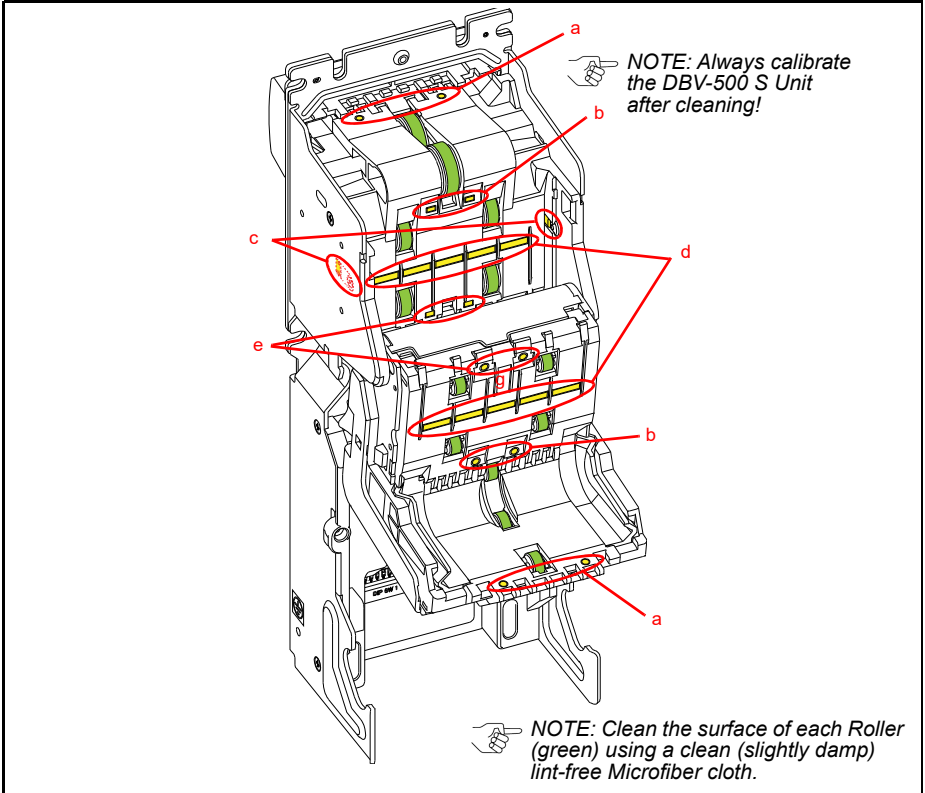

Figure 3 DBV-500 S Sensor and Roller Locations
3. Clean the Lens of each Sensor (yellow) and the Rollers (green). (See Figure 3 for Locations and Table 5 for Cleaning Methods.)